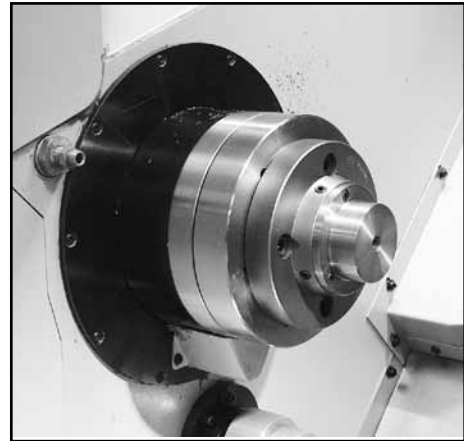

Figure 7 – Work Locating Stop
5. Mount the **Work Locating Stop** (Figure 7) to the spindle collar with the three screws provided.